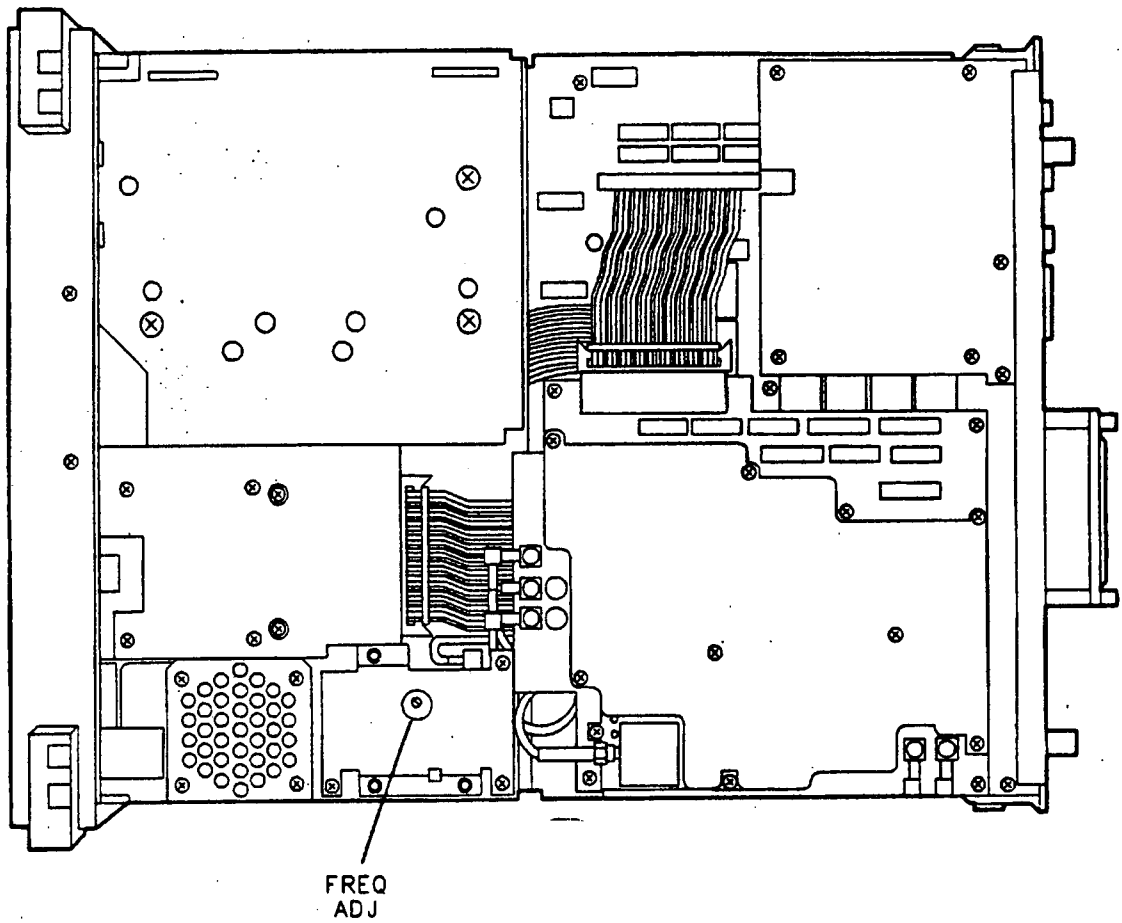

Figure 2-9. Oven Reference Adjustment Location
- Locate the FREQ ADJ control. See Figure 2-9. Remove the dust cap screw.